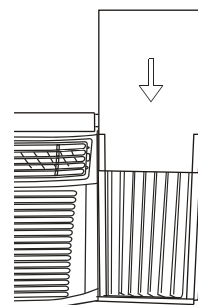

Fig.13
Step 3. Slide the R1 insulation panel into the side curtain. The patterned side faces indoors. Fig.13.